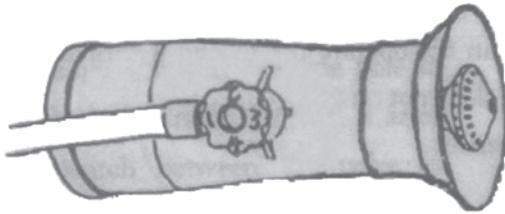

Fig 10
(1) Misting. Loosen the pressing lid, regulate the length of the nozzle opening to meet the different requirements of misting. Turn the regulating valve to change the amount of misting. See Fig. 10.